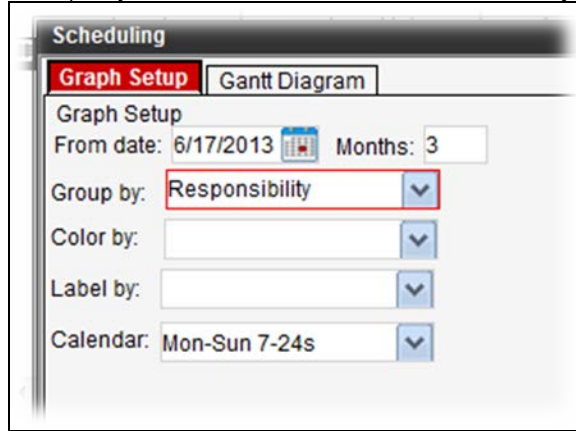

Figure 4-8. Scheduling Dialog Box - Graph Setup Tab Example
- h. The default tab is Graph Setup (Figure 4-8)
- a. Configure the criteria for the Gantt diagram by using the Graph Setup tab (Figure 4-8), using the fields explained in Table 4-4.